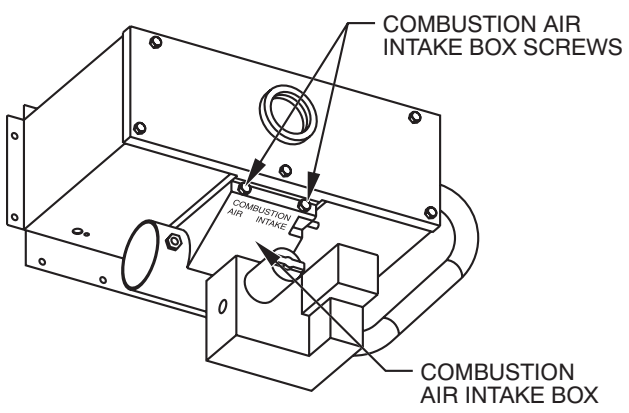

Fig. 53 - Removing Combustion Air Intake Box
- a. Remove front two screws on combustion air intake box. (See Fig. 53.)
- e. Reinstall combustion air intake box and replace two screws to ensure diverter plate is properly installed. (see Fig. 53.)